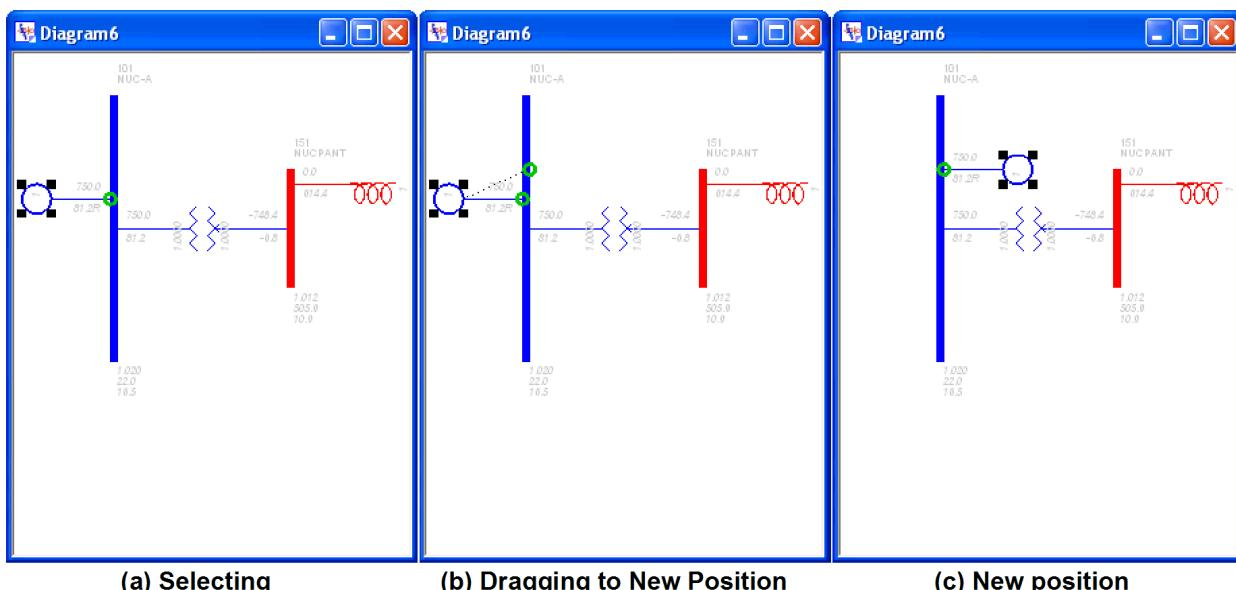

Figure 3.23. Moving Equipment
1. Click the diagram component you wish to move; a bus end connection is illuminated with a circle (Figure 3.23, "Moving Equipment"a).
2. Drag the end to the new attachment point. Valid attachment points will be illuminated with circles as the mouse passes over them (Figure 3.23, "Moving Equipment" b).
3. When the end illuminates the desired attachment point, release the mouse to connect the diagram component (Figure 3.23, "Moving Equipment" c).